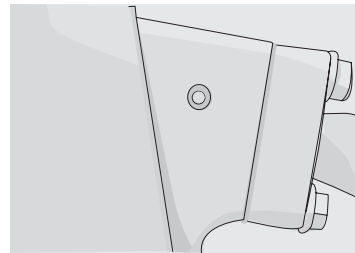

Figure 4-4
5. 1 place of the tilt cylinder's spherical hinge (straight tilt blade) (Figure 4-4)